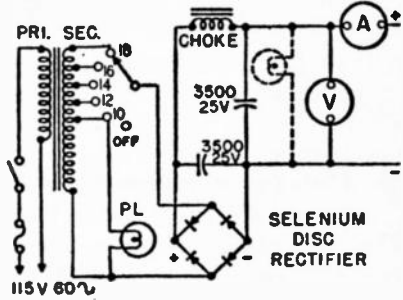

Fig. 502
A. The power pack shown in the diagram (Fig. 502) will supply about 100 watts, more than is needed for the common car radio, which draws only about 35 watts.